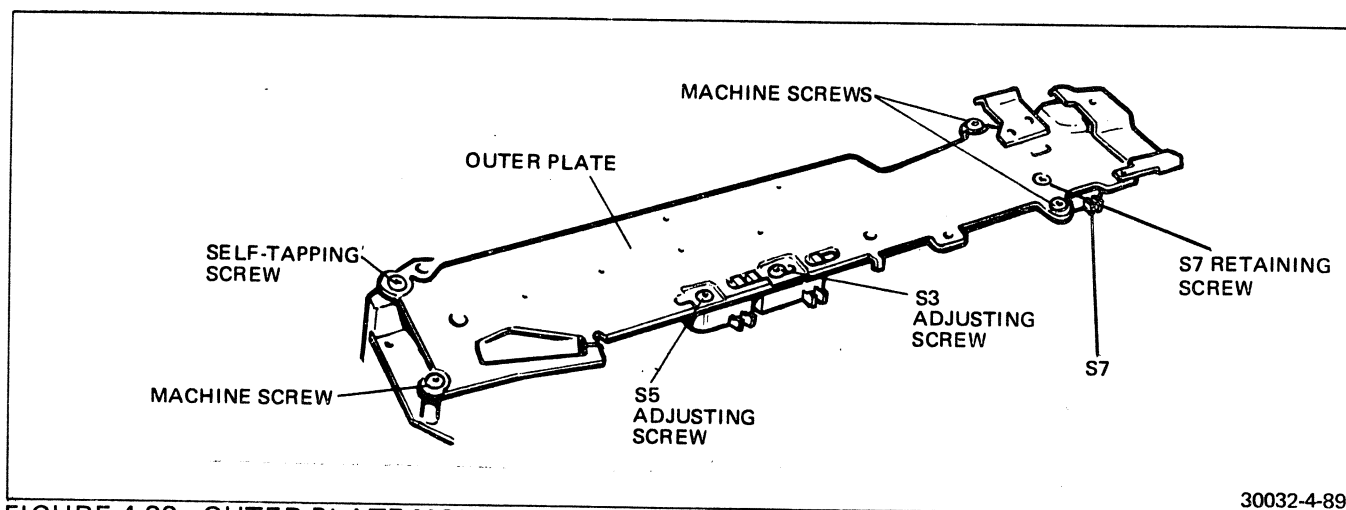

FIGURE 4-89 OUTER PLATE MOUNTING SCREWS
- e. Loosen the two forward gear-train (outer plate) retaining screws **no more than three turns**. This is done to permit the stud on the S7 switch body to clear the locating hole in the outer plate (Figure 4-89).